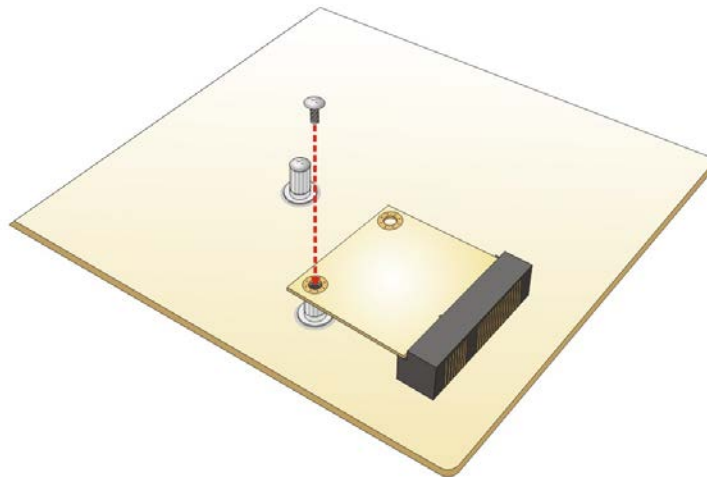

Figure 3-16: Securing the Half-size PCIe Mini Card
Step 5: Secure the half-size PCIe Mini card with the retention screw previously removed (Figure 3-16).